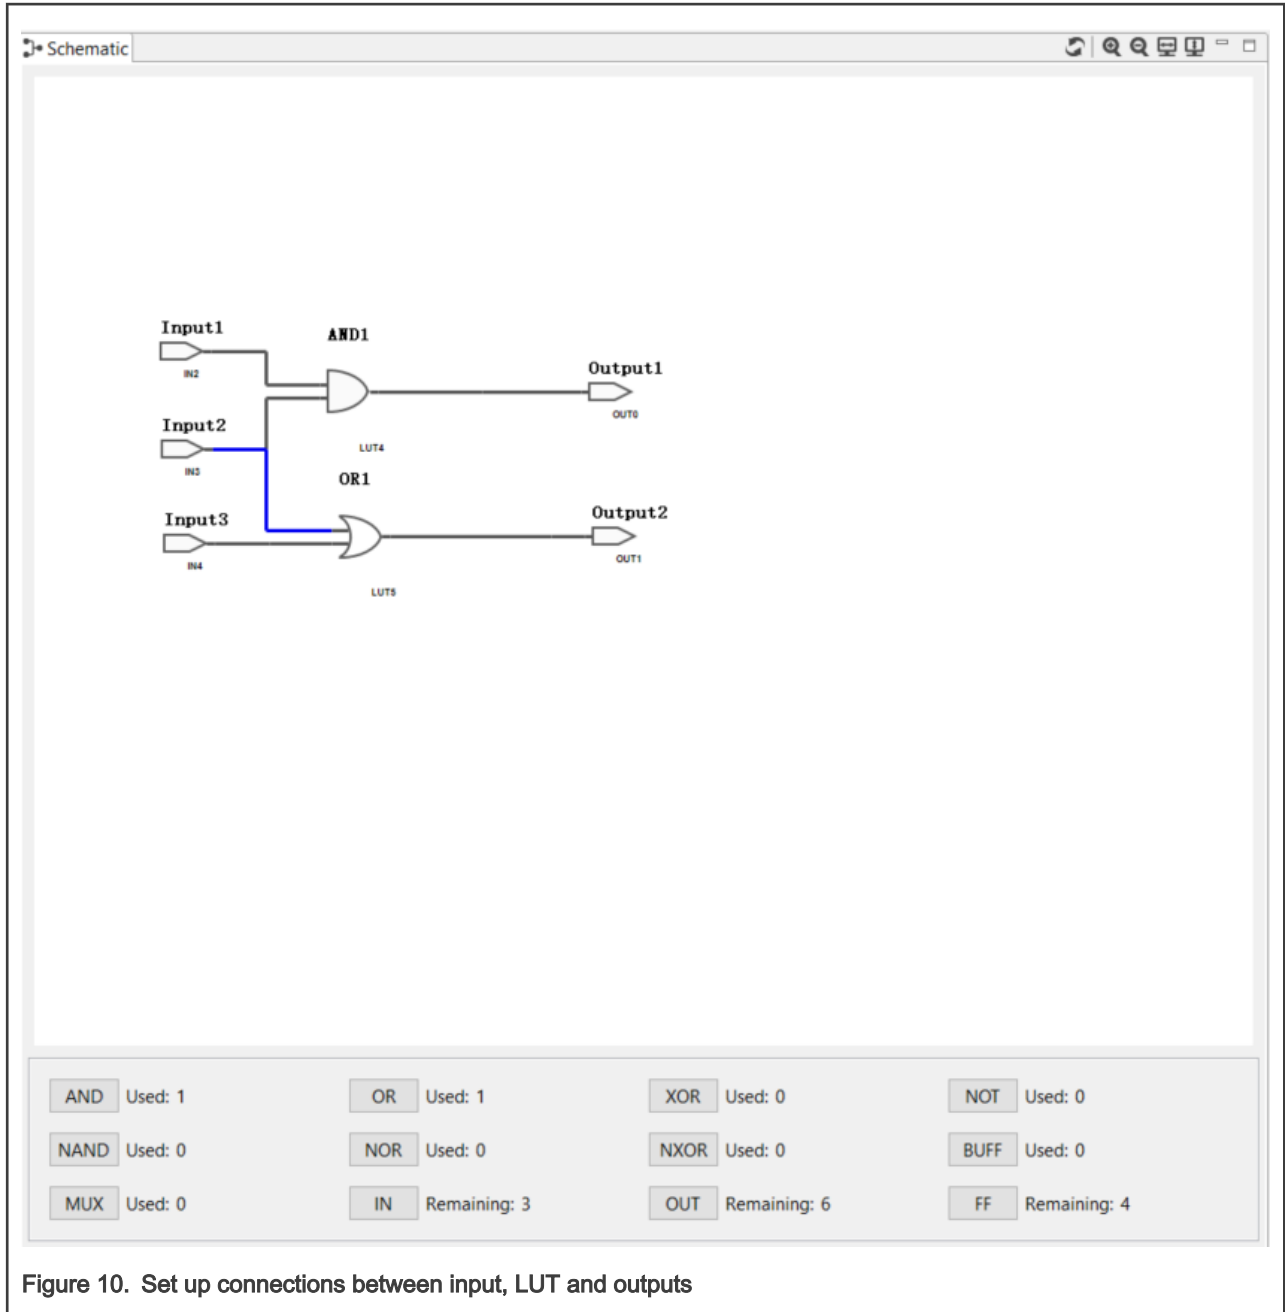

Figure 10. Set up connections between input, LUT and outputs
1. Open a new design in the PLU Config tool to choose the schematic design option. Place needed Inputs 1, 2, and 3, and output 1 and 2, add logic gates AND1, OR1 in the schematic, and draw the connections between inputs, logic units and output, as shown in Figure 10. The number of gates that can be added is unlimited. Only inputs, outputs and flip-flops have a restricted quantity.